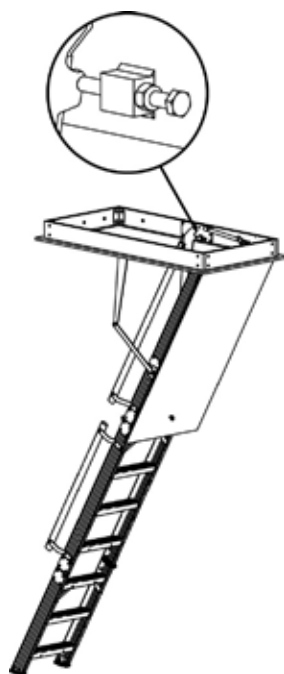

Figure 8
2. As shown in Figure 8 on page 7, undo the lock nuts on both sides of the frame.